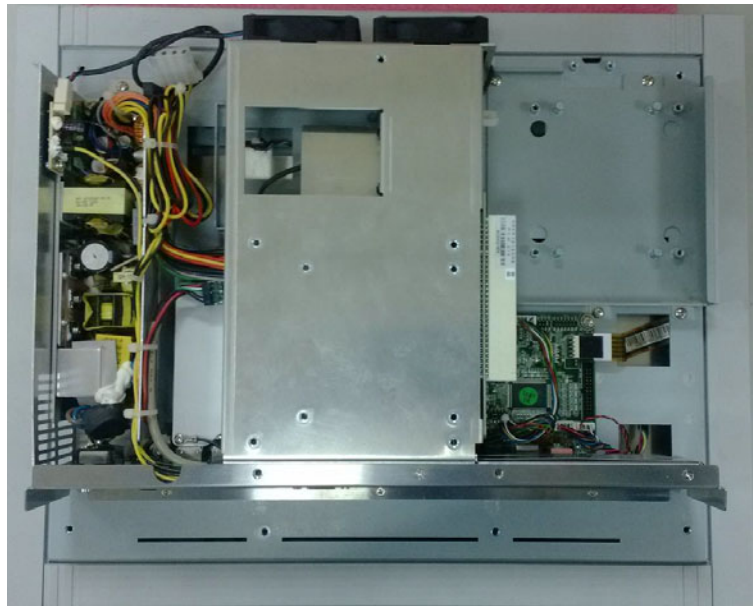

Figure 2.6 After removing rear cover
1. Remove rear cover of the panel PC. (See Fig 2.6)